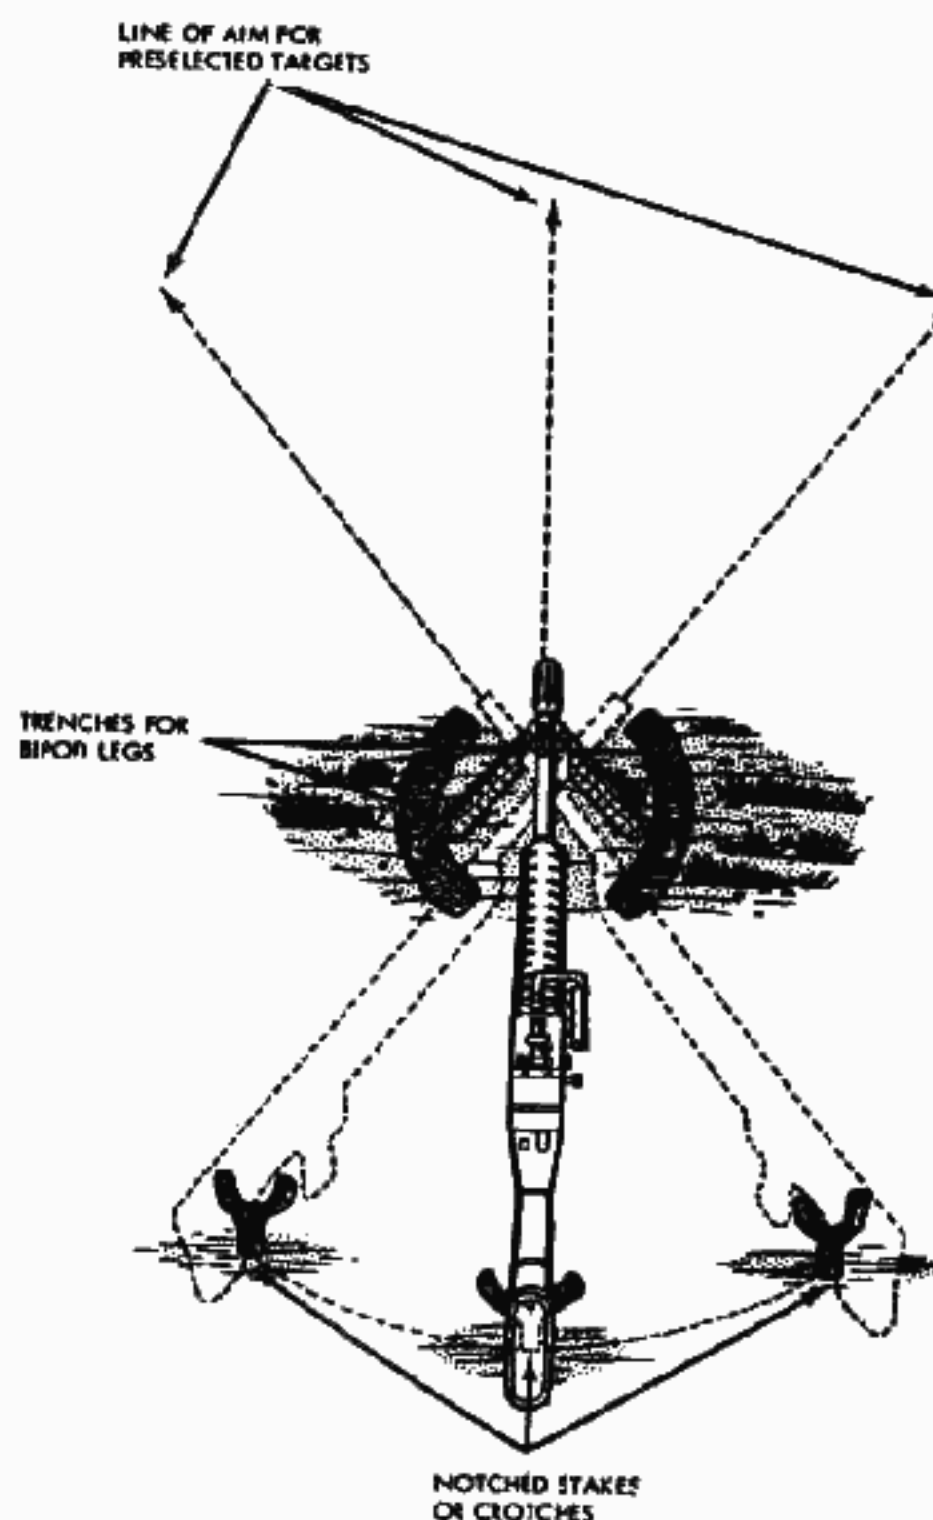

Figure 4
(3) Lay the gun to engage other target areas on a sector limit. In a primary sector this is accomplished by using the procedure in (2) above; the only difference is that no depression is allowed for irregularities in the terrain. In a secondary sector when the gun is mounted on tripod, and the traversing and elevating mechanism is removed, the procedure described in (1) above is used in addition to driving in an additional stake under the gas cylinder extension to fix the elevation.
c. **THE NOTCHED STAKE OR TREE CROTCH TECHNIQUE** (Figure 4). The notched stake or tree crotch technique is used with the bipod mounted gun to engage preselected target areas within a sector or to define sector limits. This method is effective in all conditions of visibility and requires a minimum of additional material. To employ this method the following procedure is used:
- (1) The stock of the weapon is placed in the rests of notched stakes or tree crotches and adjusted to hit desired targets or to define sector limits.
- (2) Shallow trenches or grooves are dug for the bipod feet. These trenches or grooves act as a pivot point for the weapon, permitting rotation